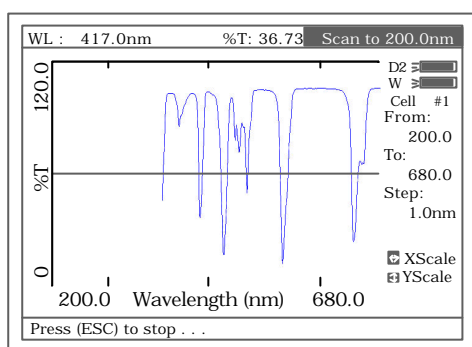
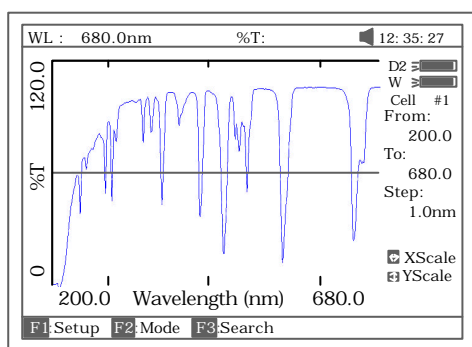

Fig 45
Fig 46
4. Pull the sample cuvette into the light path, press **【START】** to scan the sample (Fig 45) **【ESC/STOP】** to stop scanning. When scan has finished the beeper beeps 3 times (Fig 46).
Note: The report always is printed in Fig 46